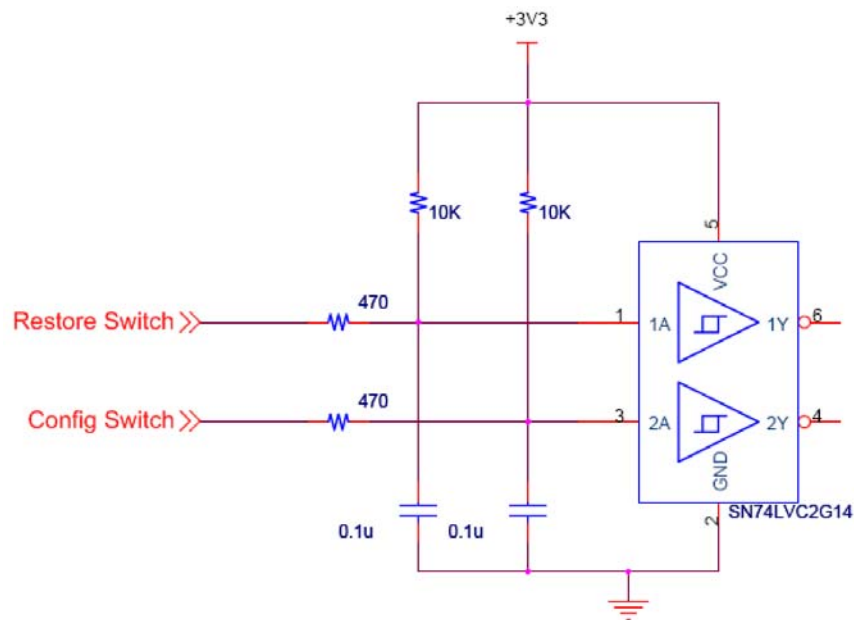

Figure 1 Restore Switch and Config Switch Debounce Input Stage
The Restore Switch signal input to the PM2510 includes a debounce circuit to support direct connection to a mechanical push button, as illustrated in Figure 1.
* Input includes a debounce input stage as illustrated in Figure 1.